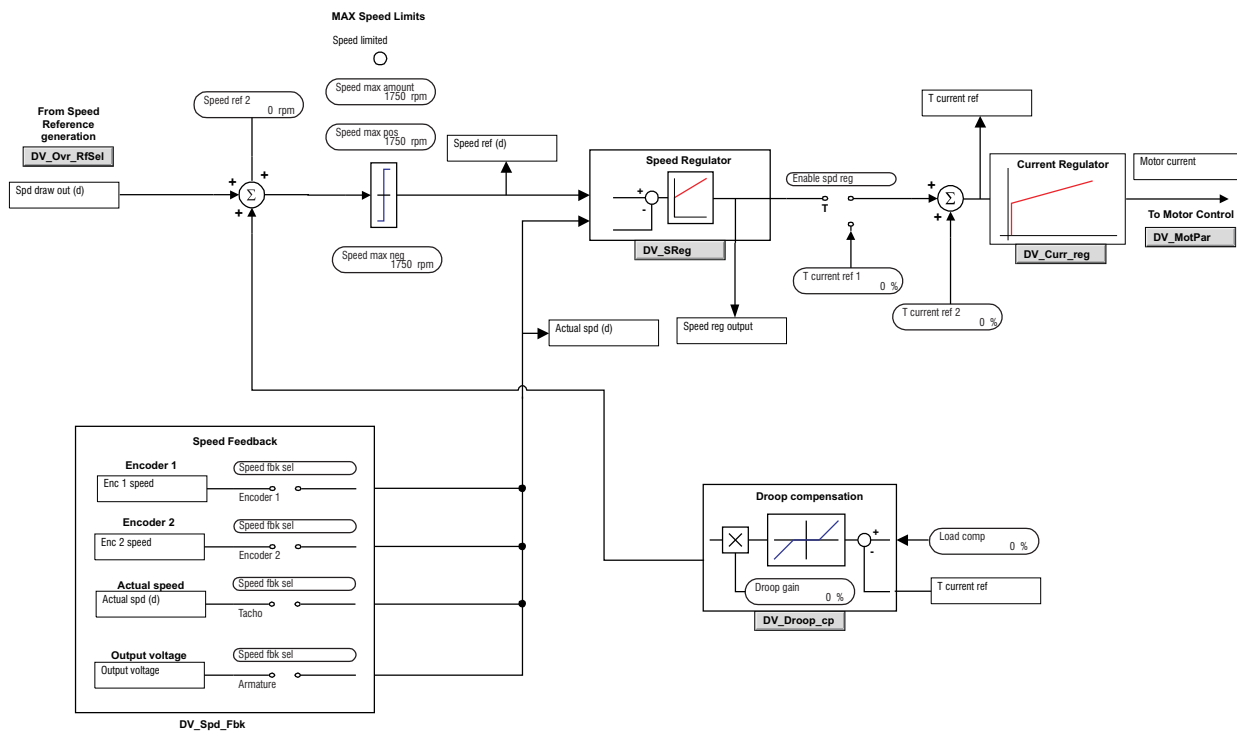

Figure 6.4.2.1: Speed reference
**Speed max amount** It defines the maximum speed for both directions TPD32...4B... This parameter affects the speed regulator input and therefore takes into account both the reference values that come from the ramp as well as the direction of rotation (see Figure 6.4.2.1). If the **Speed max amount** parameter is changed, the **Speed max pos** and **Speed max neg** parameters are set to the same value. If any of these values is subsequently changed, the last change is valid. The value to be entered is based on the factor function.